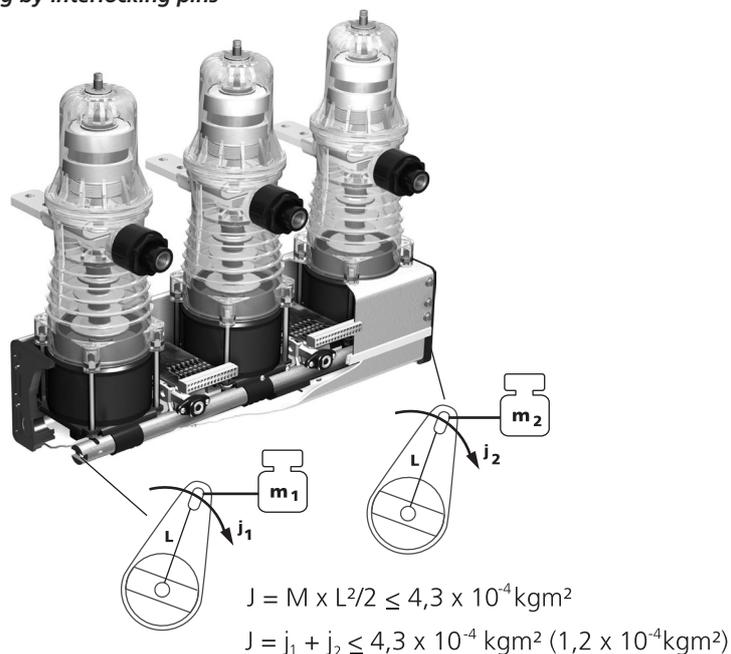

Figure 103
- If the attached part is joined with a lever mechanism, the weight (including directly moved parts) shall be decreased in proportion of the lever (Figure 103).